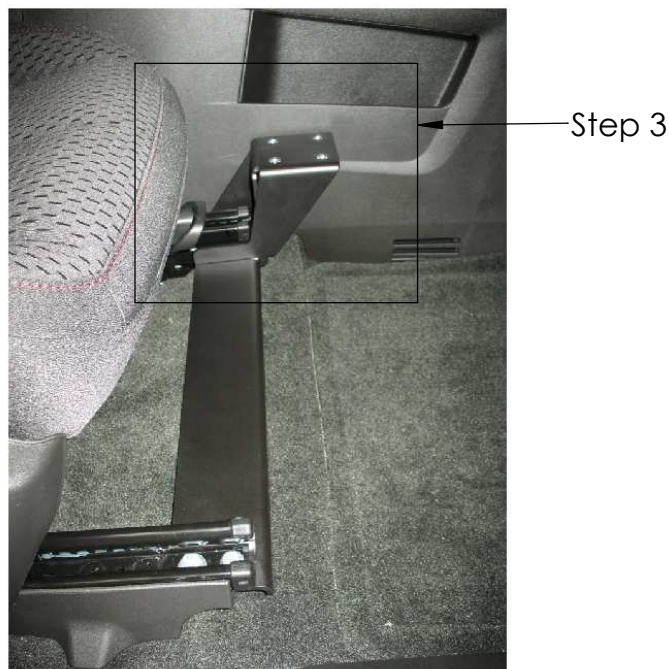

Figure 1
3. Drill second hole on inboard seat rail due to weight of the equipment on that rail. Drill a $7/16$ " hole located, $1-1/8$ " back from the front hole of the inside seat rail on the passenger seat. Ensure that this hole is aligned with the front hole. (Figure 1 shows side of rail to drill into)